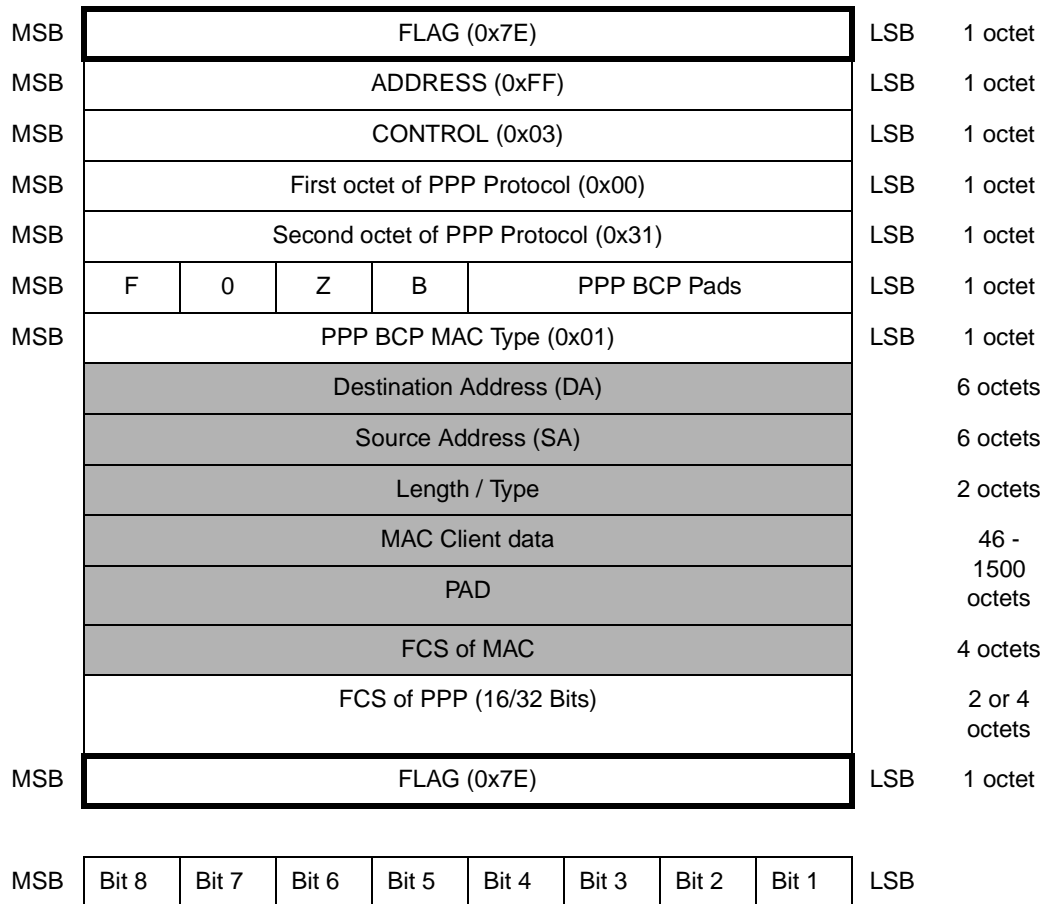

Figure 55. Format of PPP Frame with an Ethernet MAC Frame Payload
Figure 55 shows the format of a PPP frame with an Ethernet MAC frame payload (denoted by the shaded area).
- 16 or 32-bit FCS generation over all bits of the ADDRESS, CONTROL, PPP Control, PPP BCP Flags, PPP BCP Pads, PPP BCP MAC Type, Payload Information area (shaded area as shown in Figure 55) and optional pad octet fields not including any Opening/Closing flags and Abort sequences, is configurable using the cTPFCSx register. Furthermore, the FCS generator can be initialized to a default state using the cTFCSINITIALx register.